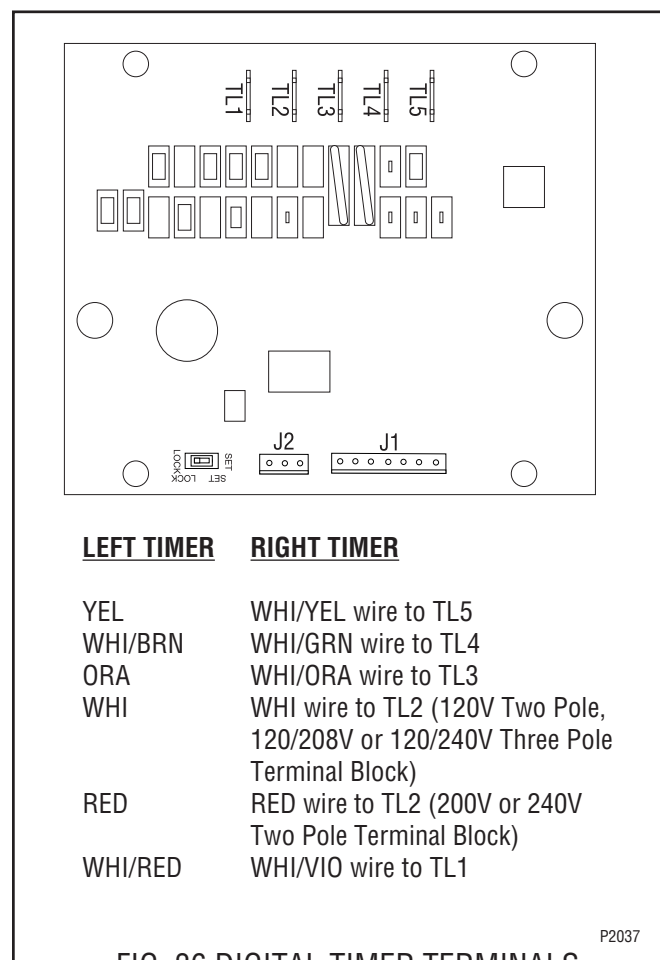

FIG. 36 DIGITAL TIMER TERMINALS
4. Attach all wires to the replacement timer board prior to installation to the component mounting bracket. Refer to FIG. 36 when reconnecting the wires.